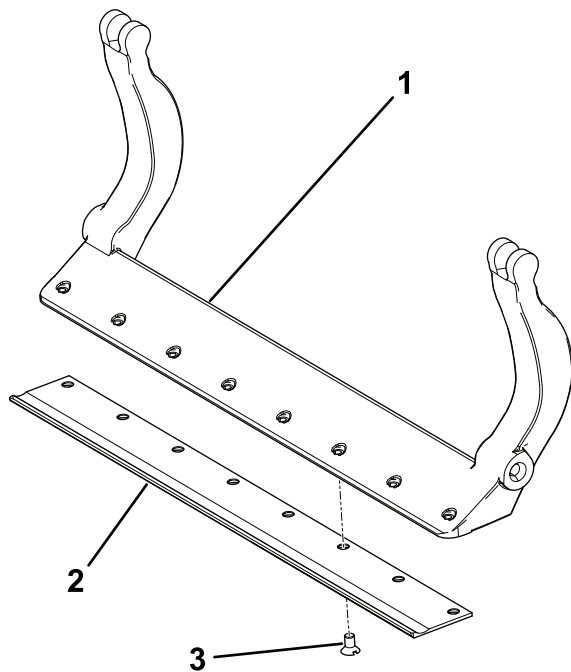

**Figure 32**
5. Tighten the spring-tension nut until the spring is collapsed, then back off 1/2 turn (Figure 32).